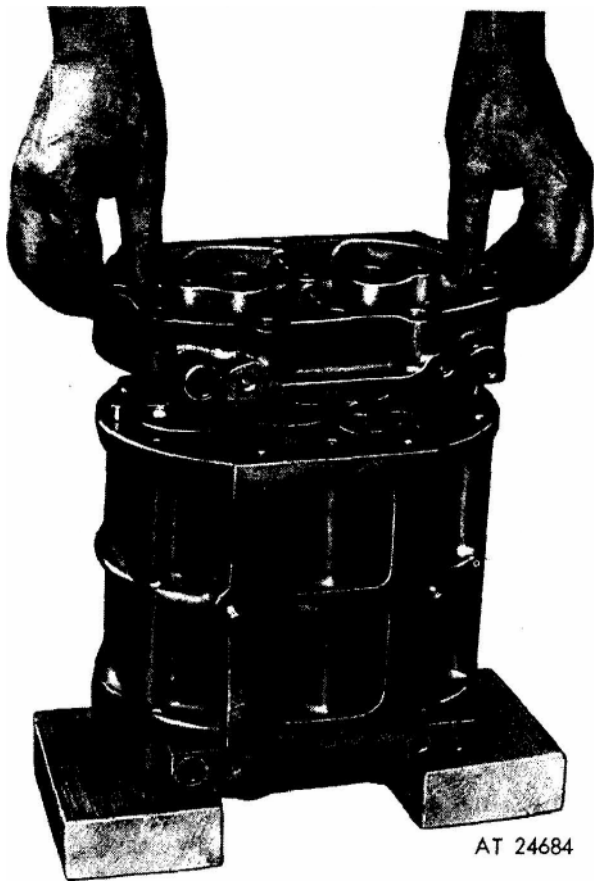

Figure 7. Installing mar end plate on blower rotors and housing.
4. Place the rear end plate over the rotor shafts as shown in figure 7. Be sure that the seals are properly positioned on the rotors. Then, secure the end plates to the blower housing with screws (50).
5. Attach two thrust washers (18) to the front end of the blower with bolts (25). On a blower equipped with $\frac{3}{8}$ "-24 thrust washer bolts, tighten them to 54-59 lb-ft torque.
6. Attach tree spacers (51) and thrust plate (23) to the front end of the blower with three thrust plate bolts (20). Tighten the bolts to 7-9 lb-ft torque. Then check the clearance between the thrust plate and the thrust washers. The clearance should be .001" to .003".